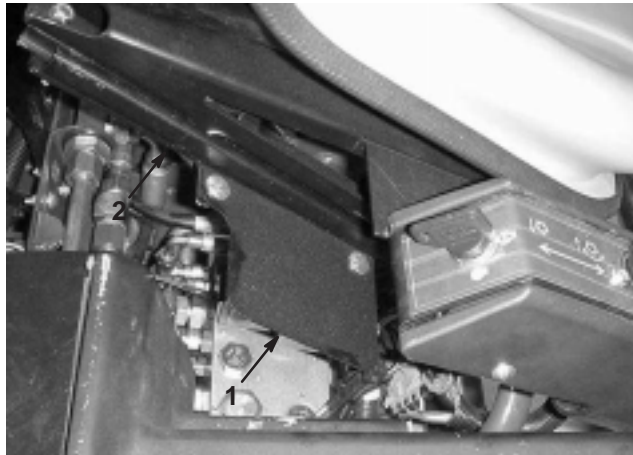

Figure 5
- Mount valve shield to the right side of the seat base with 2 carriage bolts (5/16 x 5/8 in.) and nuts. Position the shield as shown in Figure 5.